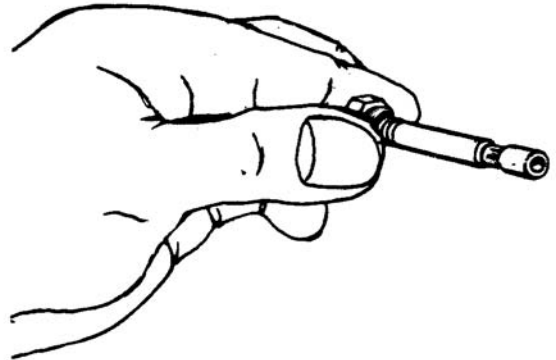

Figure 6-73. Replacing O-Ring
a. Replace O-ring if necessary. See Figure 6-73.